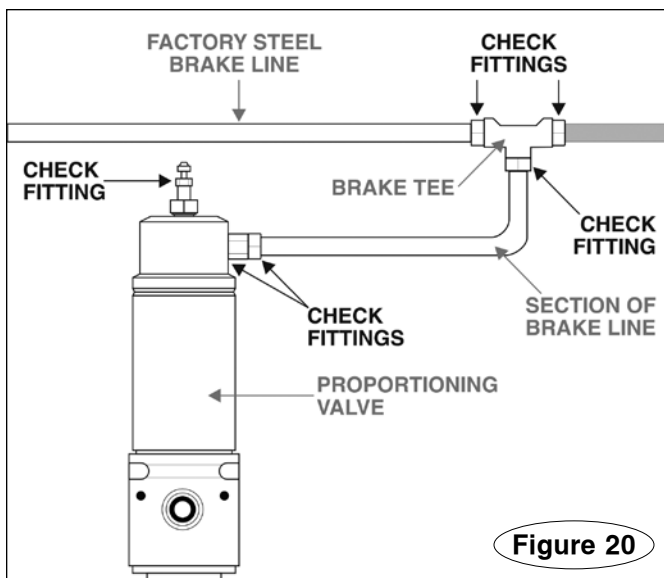

Figure 20
11. Inspect the bleeder screw and other fittings for leaks. Correct, if necessary. Inspect the proportioning valve and the brake line fittings at the six points indicated in Figure 20 and correct, if necessary.